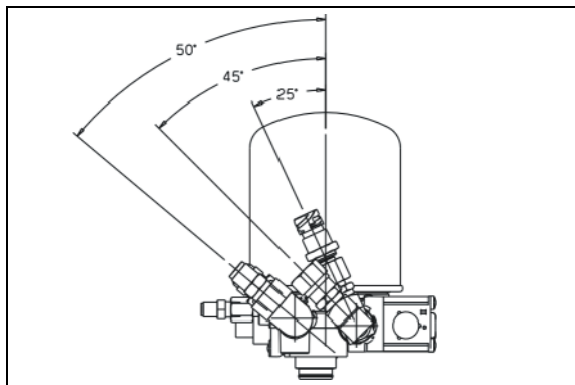

FIGURE 9: FITTINGS DIRECTION
13. Remove and transfer the inlet (port 1) fittings assembly as a single unit to the new air dryer assembly. Install the fitting assembly with an angle of 50° as shown on Figure 9.
14. Remove and transfer the outlet (port 21) fittings assembly (1 elbow + 1 tee) as a single unit to the new air dryer assembly. Install the fitting assembly with an angle of 45° as shown on Figure 9.